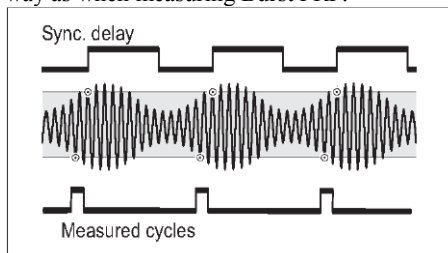

Fig. 4-9 Measuring the modulating frequency.
- Press **Trig** and enter a trigger level that makes the counter trigger according to Fig. 4-9.